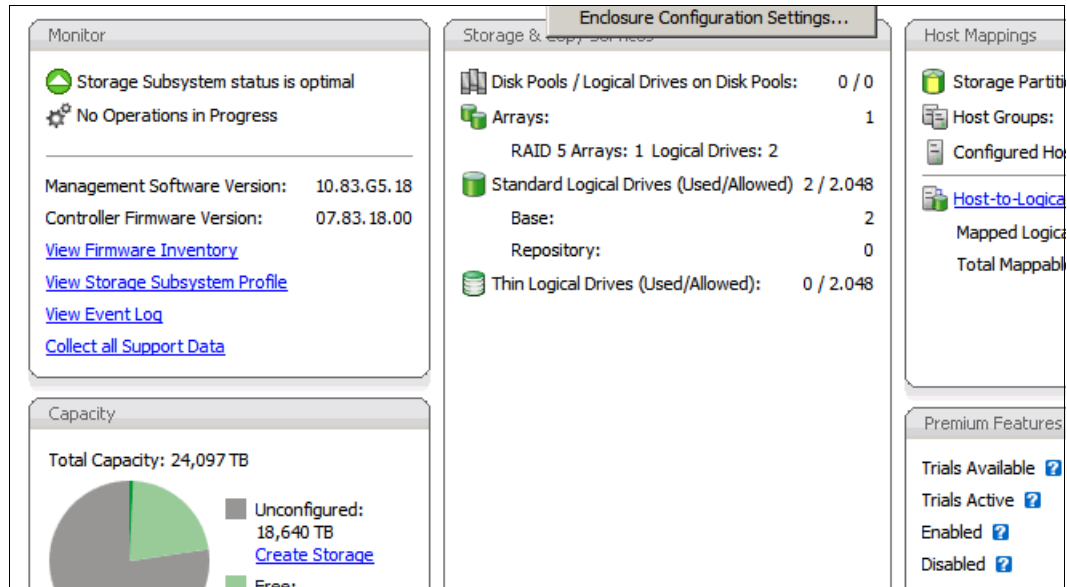

Figure 14-4 Storage Subsystem - Monitor
1. Click **View Firmware Inventory** in the Monitor pane of the Summary tab of the Storage Subsystem window (Figure 14-4).